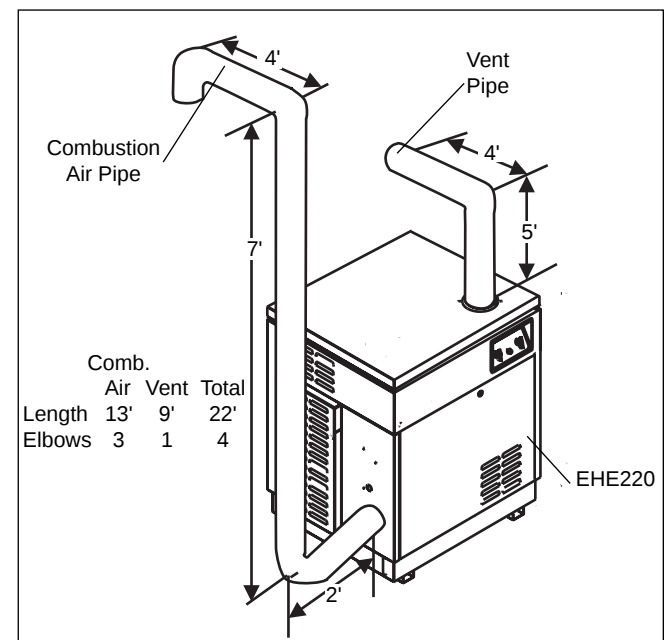

Figure 7. “Two-pipe” installation.
2. A Model 220 heater is to be installed in a two-pipe system (see Figure 7). The combustion air pipe is to be 13 feet long with three elbows and the vent pipe is to be 9 feet long with one elbow. Since the total is 22 feet and four elbows, 4" pipe must be used. (Table 3 indicates that the maximum length of 3" pipe is 11 feet for a system with four elbows.)